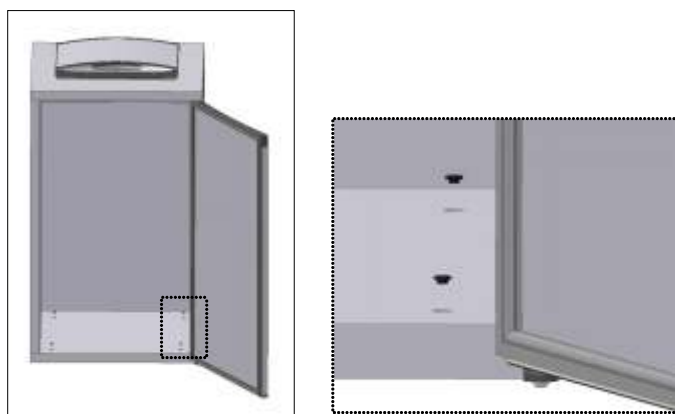

Fig. 12
- Colocar tampas no fundo (Fig. 12);